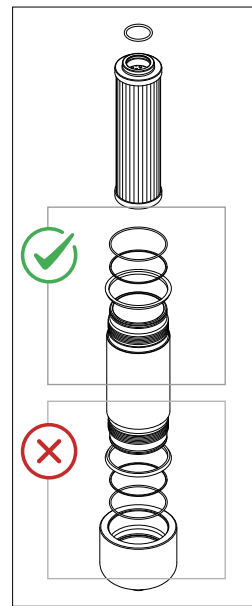

fig. 23
- (Fig. 23) Fit #1 the head seal, #2: the anti-extrusion ring and #3: the O-ring in the bowl groove, insert the O-ring in the filter element cap